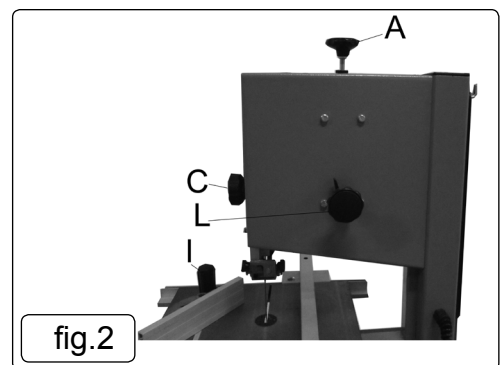

fig.2
- 5.3.2. If adjustment is needed, turn the tracking knob (fig.2.L) whilst continuing to turn the upper blade wheel. Note the effect on the tracking and continue to turn tracking knob until tracking is correct.